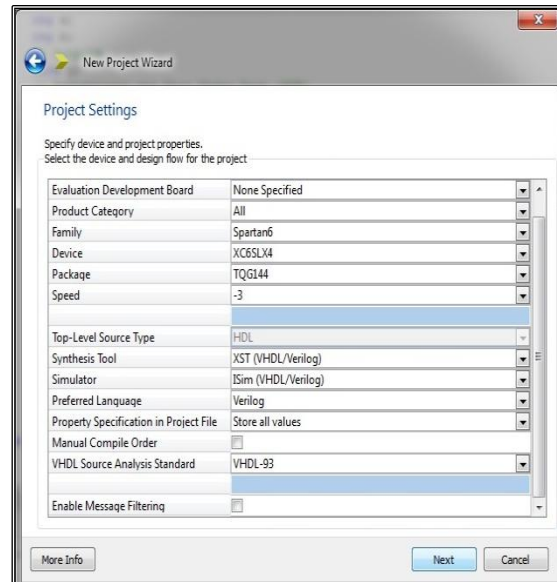

Fig 2.3: Project Properties
4. Next in the **New Project Wizard - Project Settings** page, select the following to specify project and device properties (Fig 2.3):